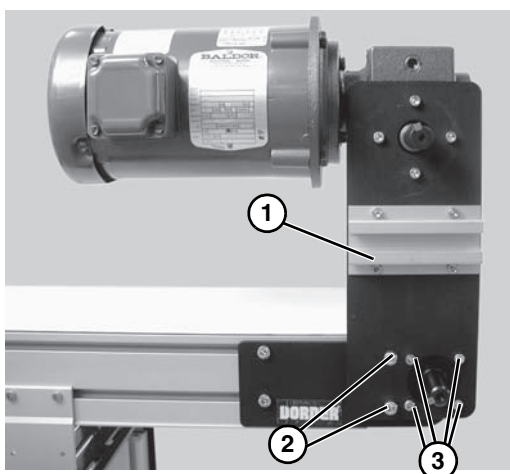

Figure 6
4. Attach mount assembly (**Figure 6, item 1**) with two (2) M8 screws (**Figure 6, item 2**) and four (4) M6 screws (**Figure 6, item 3**). Tighten M6 screws to 146 in-lbs (16.5 N-m) and M8 screws to 288 in-lbs (32.5 N-m).